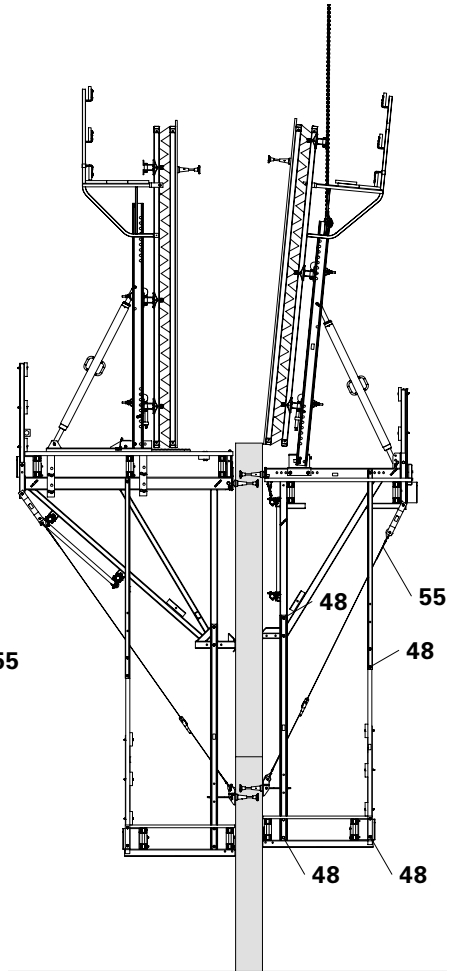

Fig. B1.29
12. Mount Tension Belt L = 5.70 m, 2.5 t (55), see B1 Wind bracing. (Fig. B1.29)